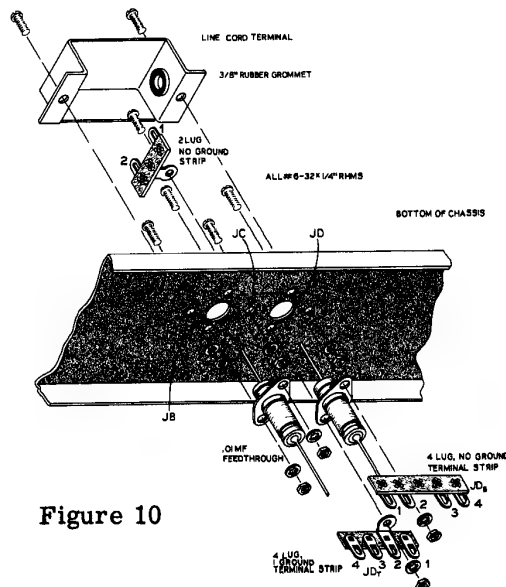
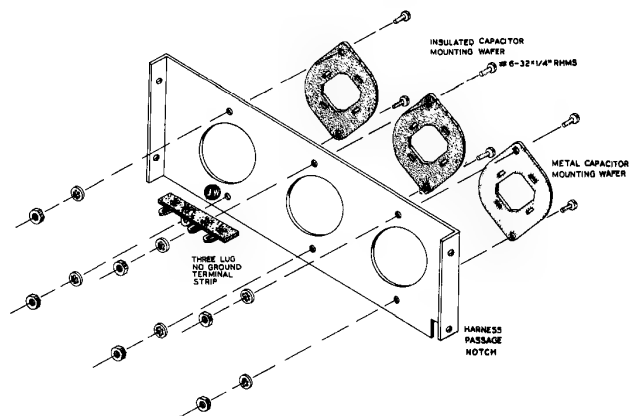

Figure 10
Figure 11
- (✓) Locate the two .01 mfd feed-through capacitors. Mount one .01 mfd feed-through capacitor at location JB with the capacitor mounting flange on the inside of the chassis. Use #6-32 x 1/4" RHMS with lockwashers under the nuts. See Figure 10.
- (✓) Mount the second .01 mfd feed-through capacitor at location JD, as in the preceding step. Under the nut and lockwasher near the chassis bottom flange mount a 4 lug (no ground) terminal strip. In a similar manner, mount a special 4 lug terminal strip (one ground) under the mounting hardware near the chassis top flange. Position the terminal strips as shown and note their designations, JD_t and JD_b. See Figure 10. The special terminal strip can be identified by its wider terminal spacing and raised mounting foot.
- (✓) Refer to Figure 10 for the next four steps. Mount a 2 lug (no ground) terminal strip on the outside of the chassis at location JC. Position as shown and use #6-32 x 1/4" RHMS with a lockwasher under the nut.
- (✓) Connect the outside chassis lead from feed-through capacitor JB to terminal strip JC-1 (NS). Make connection short; use care to keep bare wire away from the capacitor case.
- (✓) Connect the outside chassis lead from feed-through capacitor JD to JC-2 (NS). Observe precaution given in preceding step.
- (✓) Connect the inside chassis lead from feed-through capacitor JB to terminal strip JD_b-1 (NS).
- (✓) Connect the inside chassis lead from feed-through capacitor JD to JD_b-3 (NS).
- (✓) Locate the filter capacitor mounting bracket. This is the piece with three large holes in it and flanges on the two ends. Refer to Figure 11. On the notched end, mount a metal capacitor mounting wafer. On the two remaining holes, mount insulated capacitor mounting wafers. The wafers are all mounted on the side away from the flanges with #6-32 x 1/4" RHMS and lockwashers. Place a special 3 lug (no ground) terminal strip under the mounting nut and lockwasher at location JW on the end insulating wafer and position as shown. The special terminal strip can be identified by its wider terminal spacing and raised mounting foot.